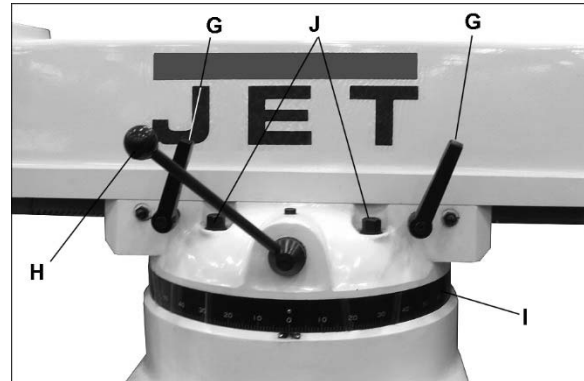

Figure 12: Ram positioning
Refer to Figure 12.
1. Loosen handles (G, Figure 12) that lock the ram to its ways.
2. Turn lever (H) to slide ram.
3. When desired position is reached, lock handles (G) securely.
1. Loosen four turret lock bolts (J, Figure 12) that clamp the ram to the top of the base. One-half (1/2) turn should be sufficient to allow the turret to move.